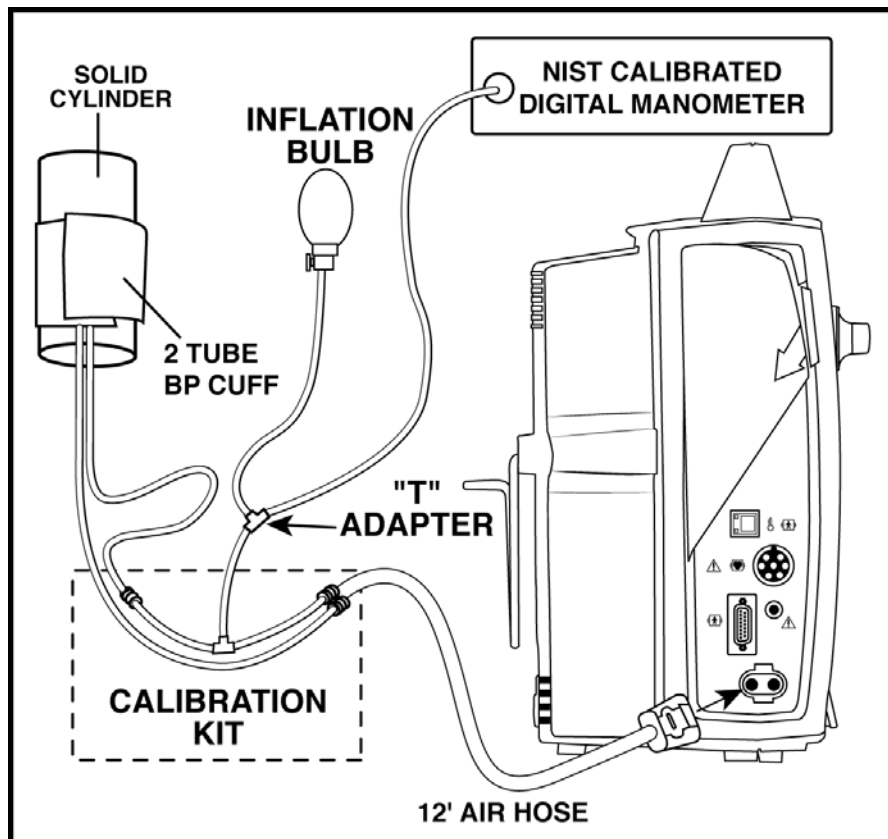

Figure 1-1. NIBP Test Setup
1. Using the calibration kit (part number 320-246), an adult cuff and air hose, and a manometer, set up the equipment as shown in Figure 1-1. Connect the hose to the NIBP Parameter. Make sure that all of the fittings are tight, and that the valve on the manual inflation bulb is fully closed.
1. Using the calibration kit (part number 320-246), an adult cuff and air hose, and a manometer, set up the equipment as shown in Figure 1-1. Connect the hose to the NIBP Parameter. Make sure all fittings are tight, and that the inflation bulb valve is closed tightly.
2. Using the calibration kit (part number 320-246), an adult cuff and air hose, and a manometer, set up the equipment as shown in Figure 1-1. Do not connect the pneumatic hose to the NIBP port yet.
1. Using the calibration kit (part number 320-246), an adult cuff and air hose, and a manometer, set up the equipment as shown in Figure 1-1. Connect the hose to the NIBP Parameter. Make sure all fittings are tight, and that valve on inflation bulb is closed tightly.